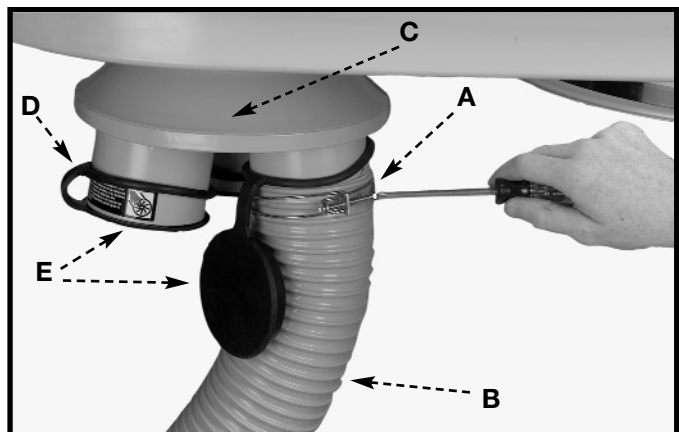

Fig. 13
To assemble the 4" dust collection hose (not supplied) to the motor and blower assembly, loosely attach hose clamp (A) Fig. 13, around one end of flexible hose (B) and assemble the hose to dust intake port (C). Tighten hose clamp (A). Assemble the remaining clamp to the other end of the flexible hose and to the woodworking machine.
NOTE: Do not operate the dust collector with any of the holes in dust intake port (C) Fig. 13 uncovered. To cover a hole not being used by a hose, place the flat intake cap (E) on dust intake port as shown in Fig. 13.